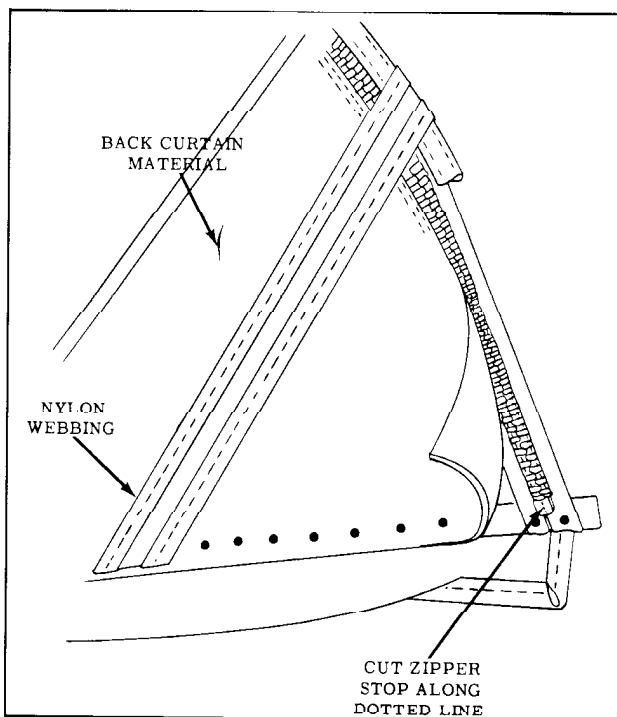

Fig. 17-45 Back Curtain Vinyl Replacement
9. Using a pair of wire cutting shears, cut zipper stop along dotted line and remove both halves of stop from zipper. (Fig. 17-45)